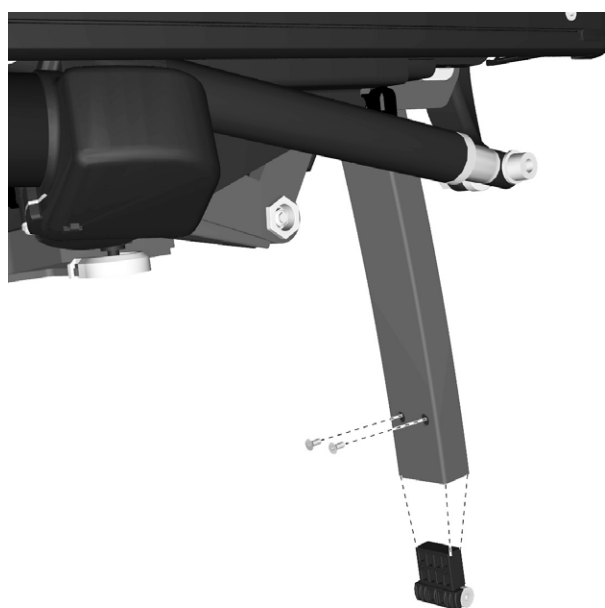

Figure 228. The slide bushing in the upper section of the legrest is attached using two screws.
4. Remove the slide bushing in the upper section of the legrest, which is attached using two screws. See fig. 228.
2. Fit the slide bushing in the upper section of the legrest using the two screws. See fig. 228.